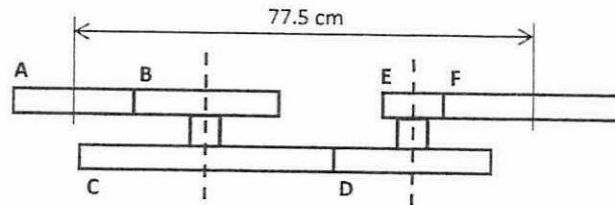

Figure Q1.1
- Q1 (a) A compound gear train as in **Figure Q1.1** comprises of six gears A, B, C, D, E and F. The diameter of each of the gear is given in **Table Q1.1**.